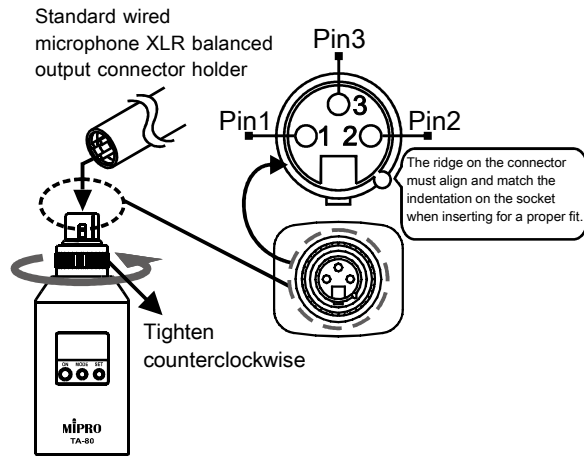

Fig. 3
2. Tighten the mechanical locking ring in a clockwise direction for a secured fit, Fig. 3.
- (A) Pin 1: Ground Pin.